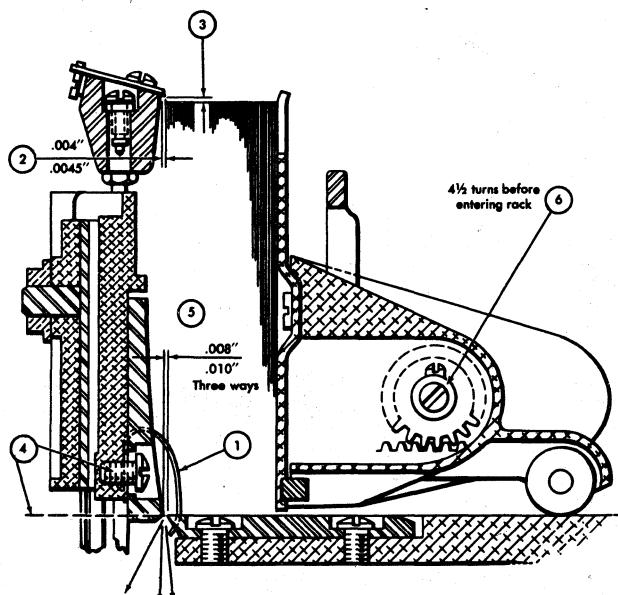

Figure 17. Hopper Adjustment
Magazine Springs. Form magazine springs to touch feed bed (1, Figure 17).
Feed Knives. Adjust feed knives with a go/no-go gage for a projection of .004 inch to .0045 inch (2, Figure 17). With CF latch armature engaged with CF cam follower arm, adjust both feed knives evenly to give minimum clearance of .015 inch (.040 inch maximum) from feed knives to top edge of cards in hopper (3, Figure 17).
Throat. Adjust throat block (4) to place crown in direct line with top edge of throat knife. Adjust throat knife (5) for an opening of .008 inch to .010 inch. If throat block is properly adjusted, an .008-inch gage should freely pass in three directions (Figure 17), but a .010-inch gage will not.